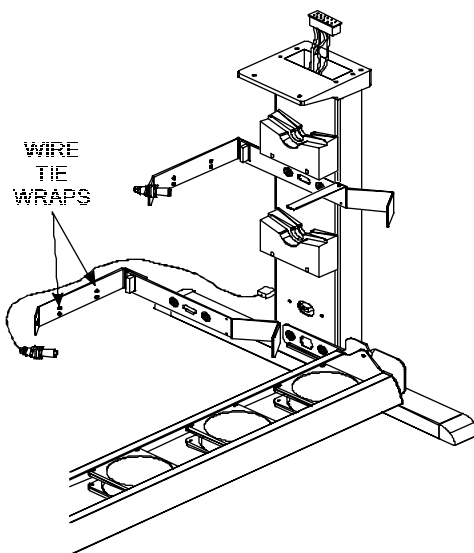

Figure 5-27. Media Take-Up and Feed Sensor Removal.
3. With a pair of wire cutters, cut the wire tie wraps (see Figure 5-27) that is securing the sensor leads to the sensor bracket.